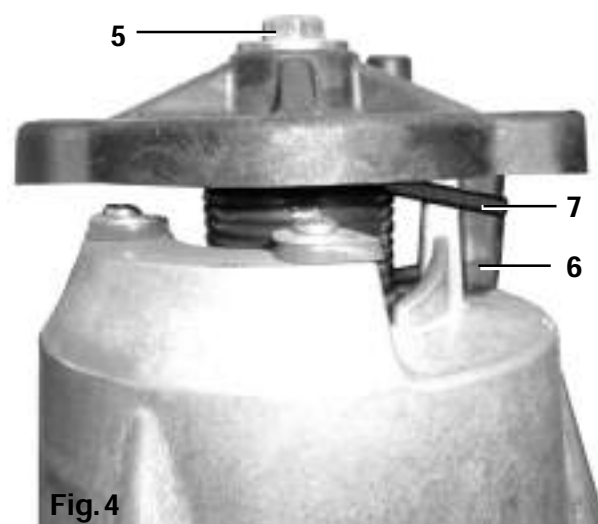

Fig. 4
- Grease and stretch the retraction spring (7) as indicated in the figure (3)
- Fit the handlebar support (6) on the steering pivot (8):
- the pin (19) must be pushed into the black handlebar support slot (20).
- The retraction spring (7) is centred by the handlebar support (see Fig.4).
- Retighten the screw (5) with slight Loctite brake-filet (**tightening torque 23 Nm**).